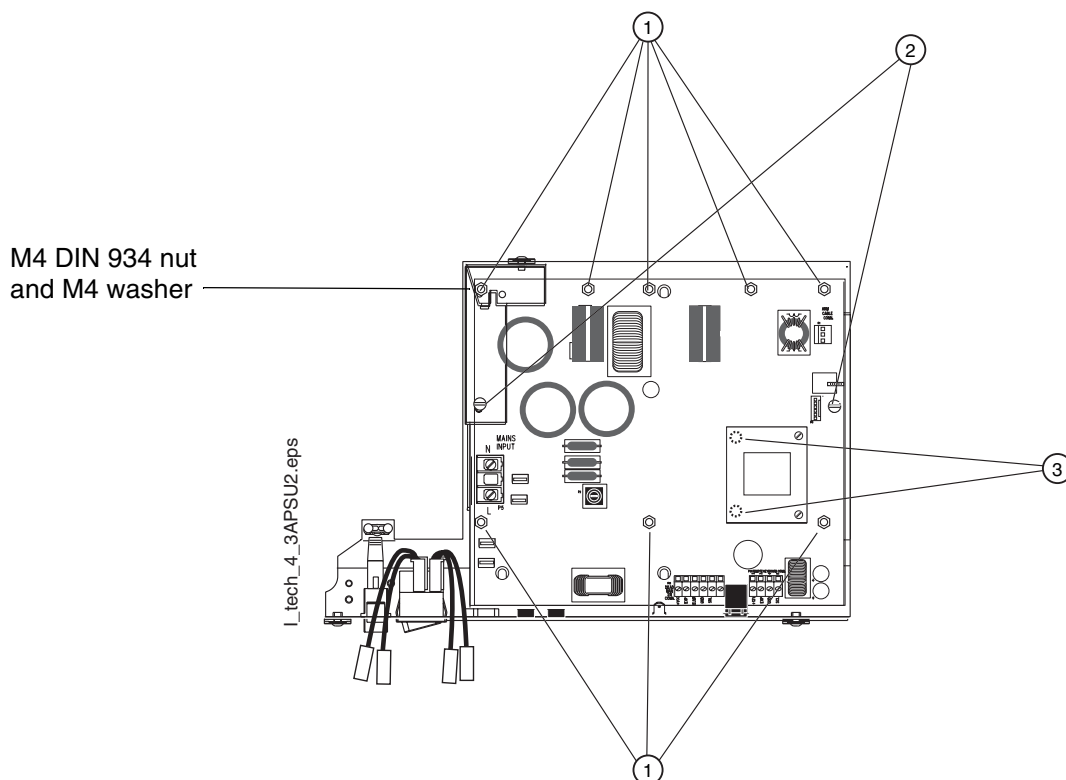

Figure 8
- e) Remove the eight M4 DIN 934 attachment nuts and  $\varnothing 4.3$  DIN 6798 washers from the Generator PCB (Fig. 8, 1). Unscrew the two M4x8 DIN 84 screws (Fig. 8, 2). Lift the generator assembly away from the wall adapter and open the two M3x6 DIN 912 screws located behind the generator assembly frame (Fig. 8, 3).